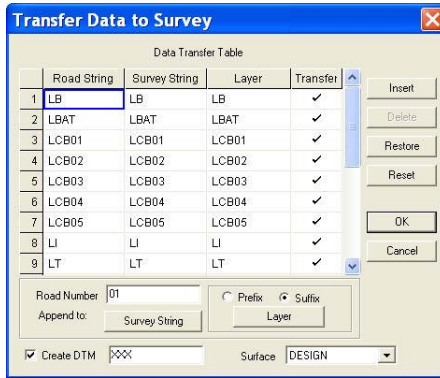

Figure 18-30. Transfer Data to Survey Dialog Box
- To use the Data Transfer Table command, click **Alignment ► Data Transfer Table**. The *Transfer Data to Survey* dialog box appears (Figure 18-30).